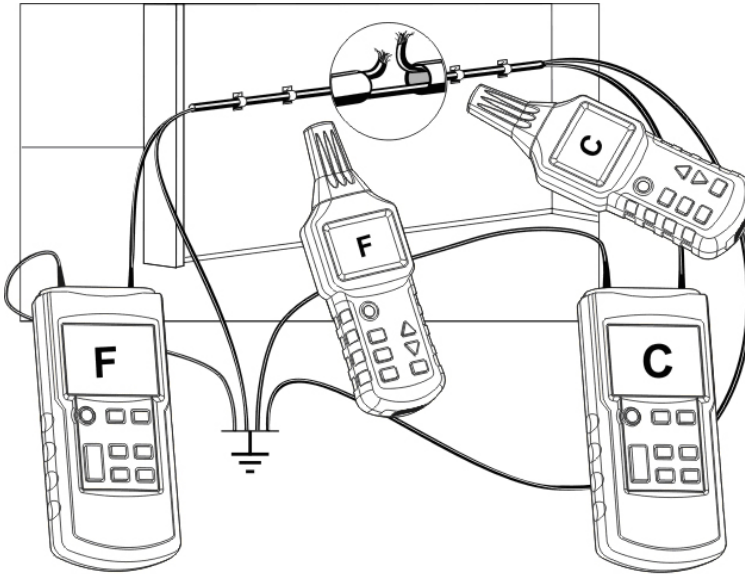

Fig.12
- All unused lines must be earthed as shown in Fig. 12.
- Connect the two transmitters as shown in Fig. 12.
If the transmitters are connected as shown in Fig. 12, the receiver will indicate C to the left of the line break. If the receiver goes beyond the location of the break, to the right, it will display F. If the receiver is placed right on the break, no line code will be displayed, because of the superposition of the signals from the two transmitters.